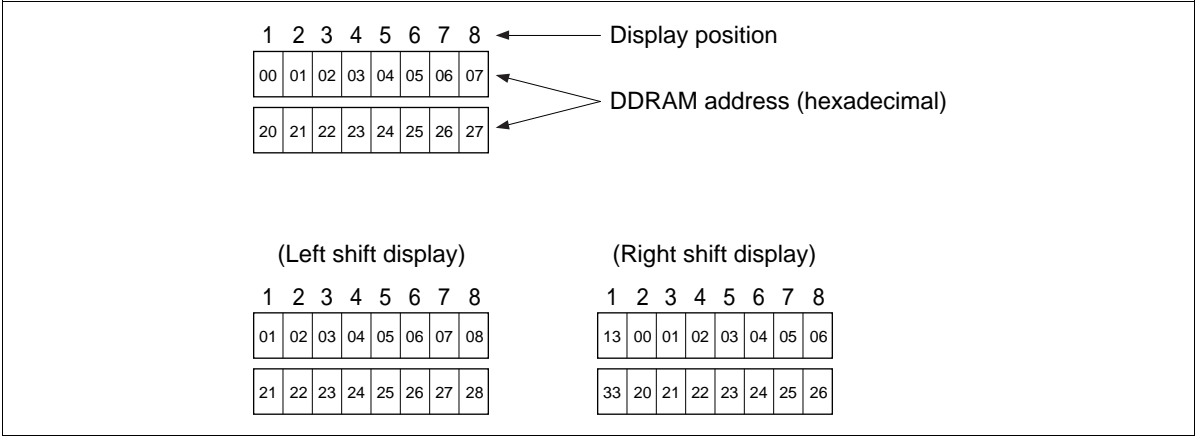

Figure 6 2-Line 8-Character Display (5-Dot Font) Using One HD66720
- Case 1: The first line is displayed from COM1 to COM8, and the second line is displayed from COM9 to COM16. Note that the last address of the first line and the first address of the second line are not consecutive. Figure 6 shows an example where a 5-dot font-width 8 × 2-line display is performed using one HD66720.
- Case 2: Figure 6 shows an example where a 5-dot font-width 16 × 2-line display is performed using one HD66720 and one extension driver.